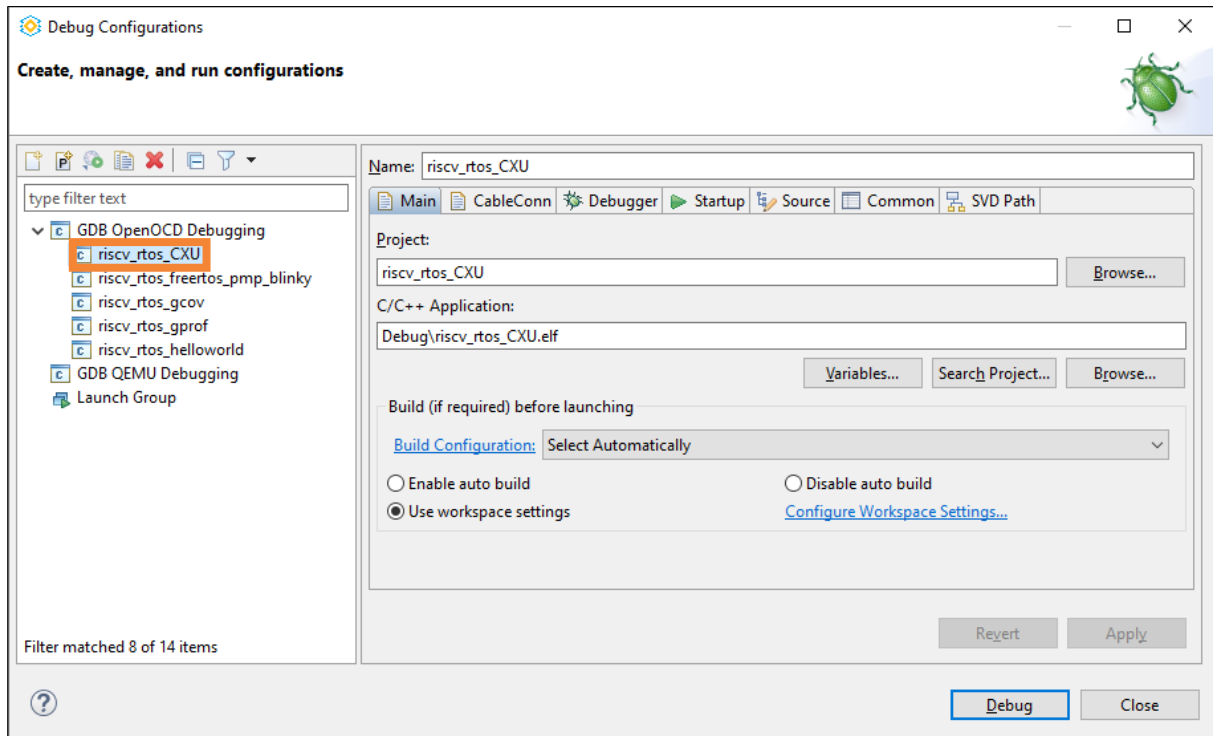

Figure 7.3. Debug Configurations Dialog 3
3. Select riscv\_rtos\_CXU in **GDB OpenOCD Debugging** (Figure 7.3).